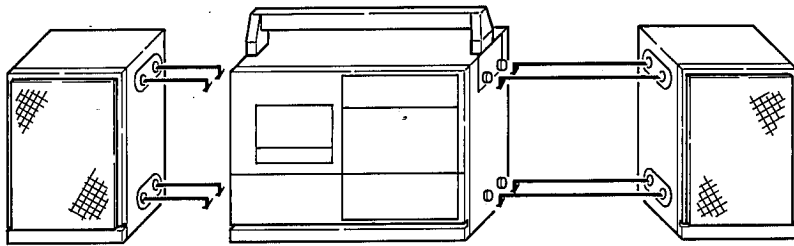

Fig. 2/ 第2圖
1. Install the left and right speaker system as shown in Fig. 2.